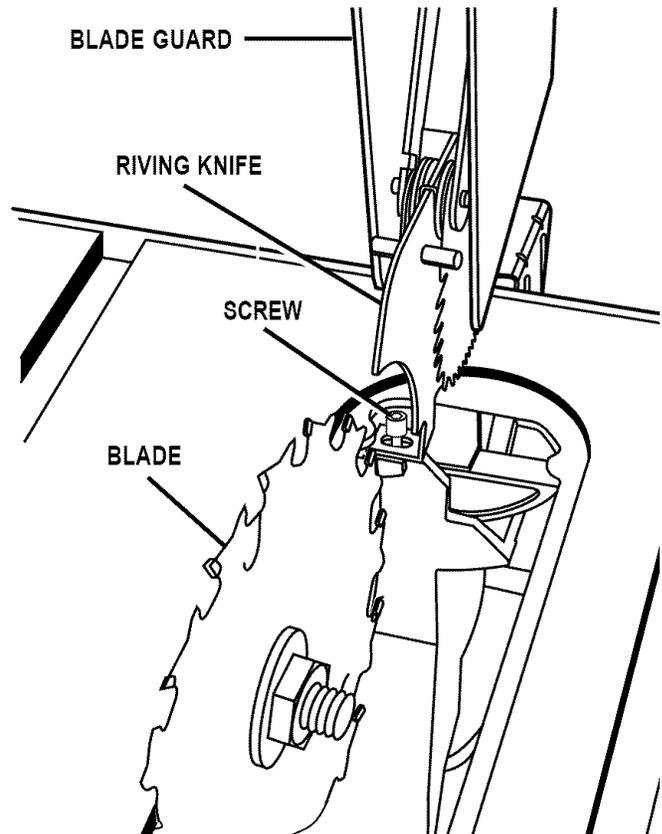

Fig. 27
- Loosen the front screw on the riving knife with a 5 mm hex key. See Figure 27.